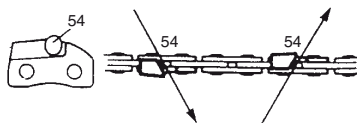

Fig. 45
File (54) cutter on one side of the chain from the inside out. File on forward stroke only. (Fig. 45)